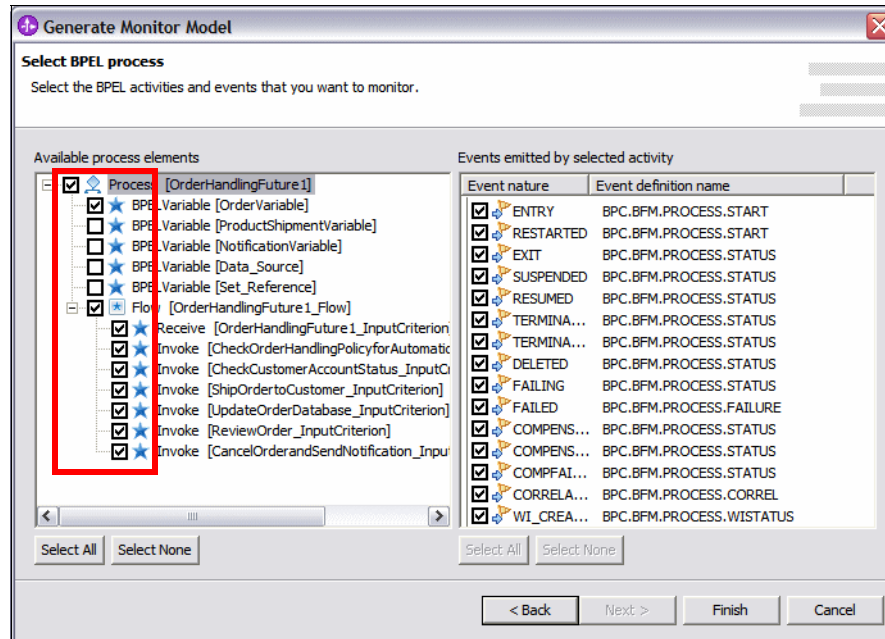

Figure 12-18 Events to be monitored
- ▶ On the next panel, select all the events we are interested in monitoring. Select all the elements of the process and the `OrderVariable`, then click *Finish* (Figure 12-18). When you select an element in the left pane, you can see the events of that element in the right pane (selected by default).